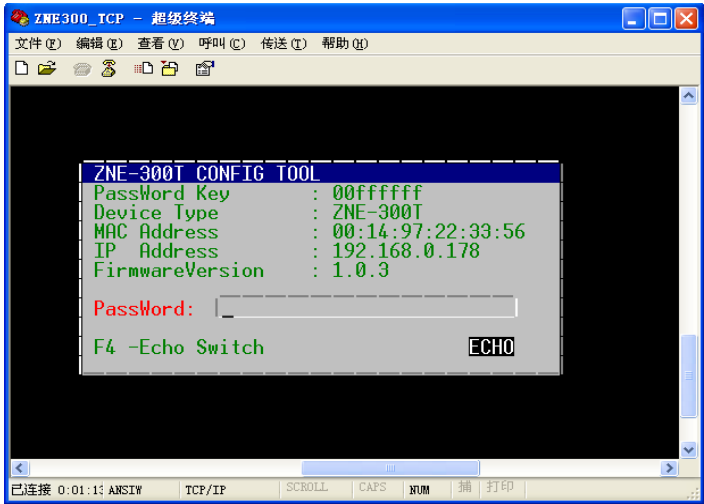

Figure 6-7: The login interface of Menu mode
If the correct connection is built up, an interface will appear, as Figure 6-7 shows. User can get the device information from it, such as the PassWordKey①, device type, MAC address, IP, firmware version and etc. After inputting the password (the factory setting is 88888) to the “PassWord” option, user can configure the device via the Menu mode.